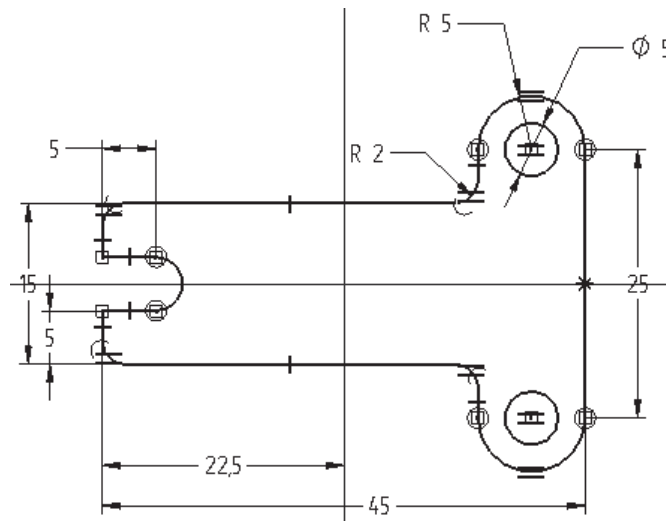

Figure 4-48 Dimensioned profile for the base feature
- Add the required relationships and dimensions to the sketch, as shown in Figure 4-48.